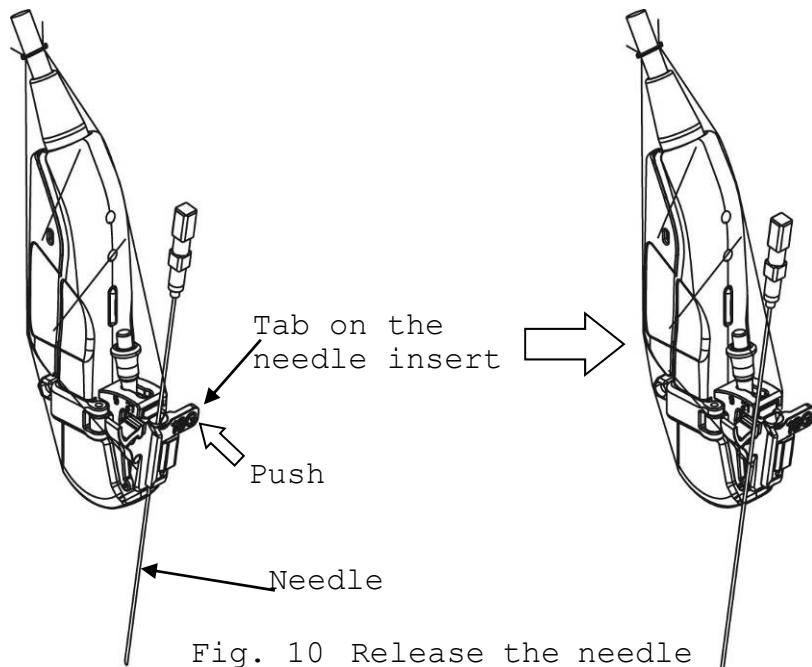

Fig. 10 Release the needle
- 7) In the case of the CIVCO Ultra Pro II, when the needle is released quickly from probe, press the tab on the needle insert toward the bracket. Move bracket and needle guide away from the needle. (See Fig. 10)